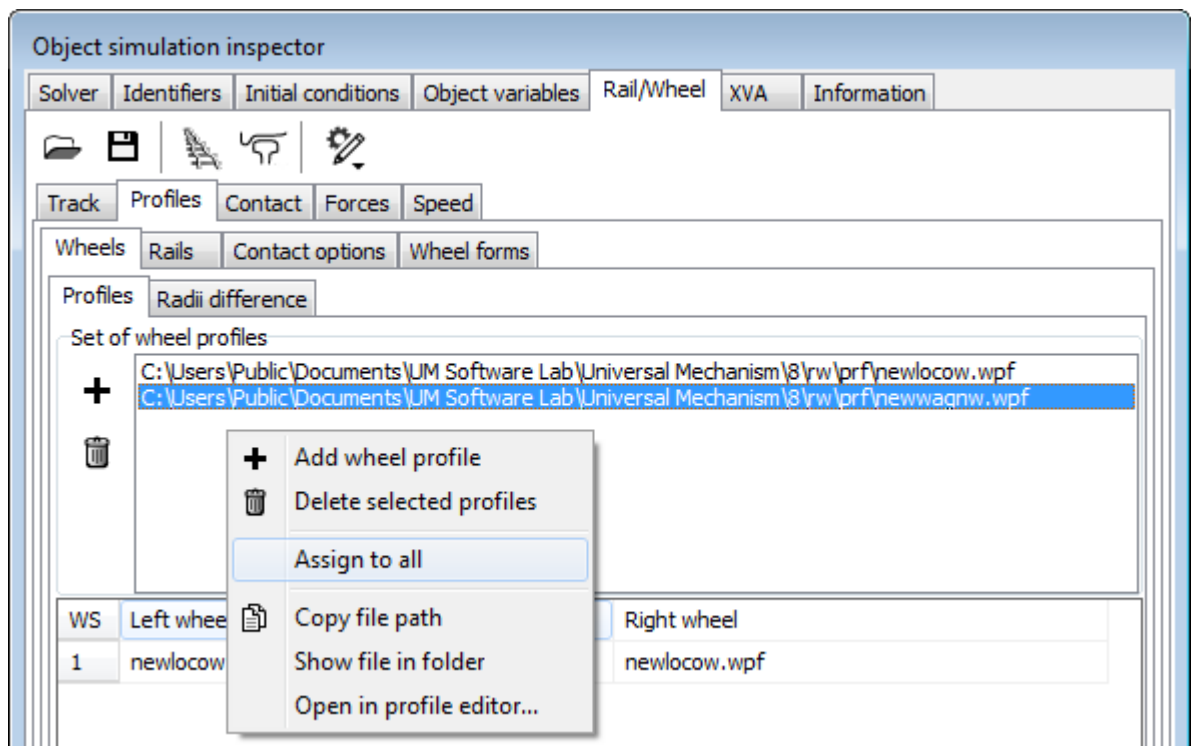

Figure 1.4. Rail and wheel profiles
7. Click the right mouse button on the just added profile and select **Assign to all**, see Figure 1.4.